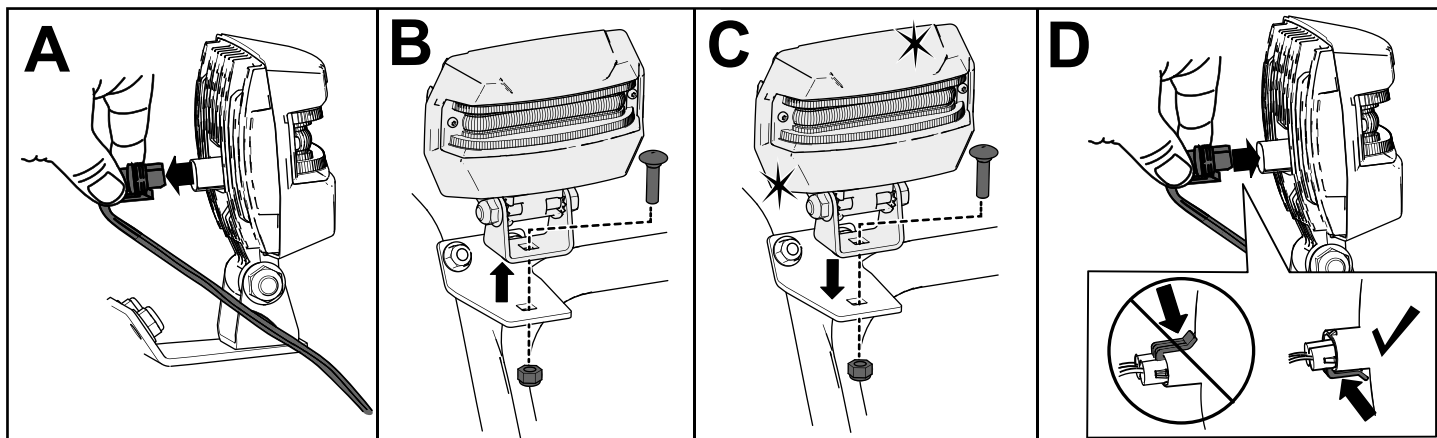

Figure 44
1. Remove the headlight wire from the back of the headlight (A of Figure 44).
2. Remove the bolt and nut holding the headlight assembly onto the headlight bracket and then remove the old headlight assembly (B of Figure 44).
3. Secure the new headlight assembly onto the headlight bracket with the previously removed nut and bolt (C of Figure 44).
4. Insert the headlight wire straight into the back of the headlight until it is securely in place (D of Figure 44).